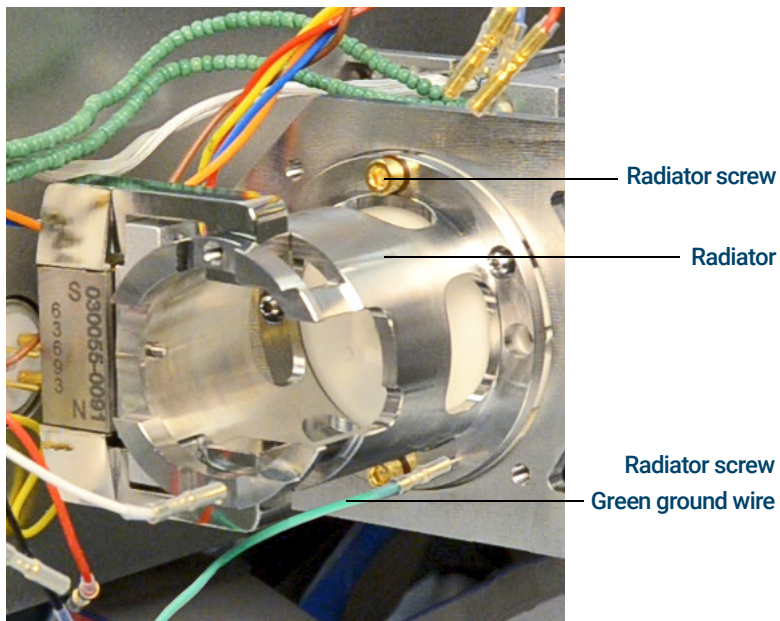

Figure 77. CI Source radiator
- 2 Connect the green ground wire to the radiator. (See Figure 77.)